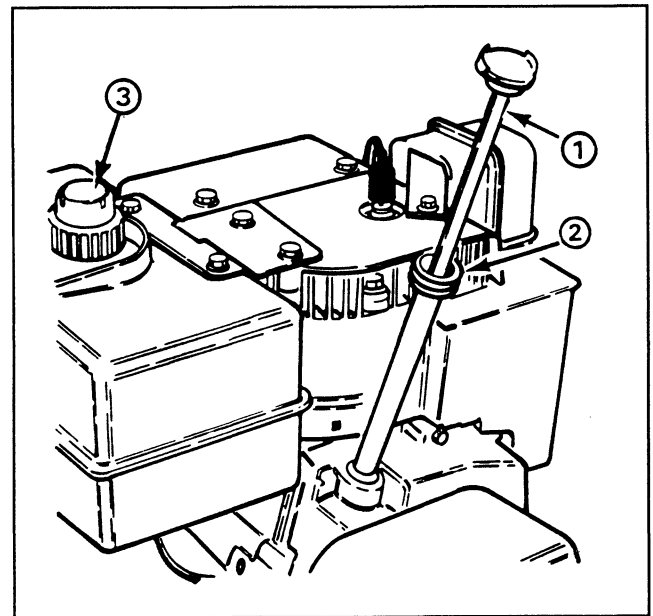

Figure 11
FILL CRANKCASE WITH OIL (Fig. 11)
1. Clean area around the fuel tank cap (Fig. 11). Remove cap from fuel tank. Using unleaded, regular gasoline, fill tank to within 1/4" to 1/2" (6 to 13 mm) from the top of the tank, not into the filler neck. This space is for expansion of fuel. Do not fill tank full. Reinstall fuel tank cap.